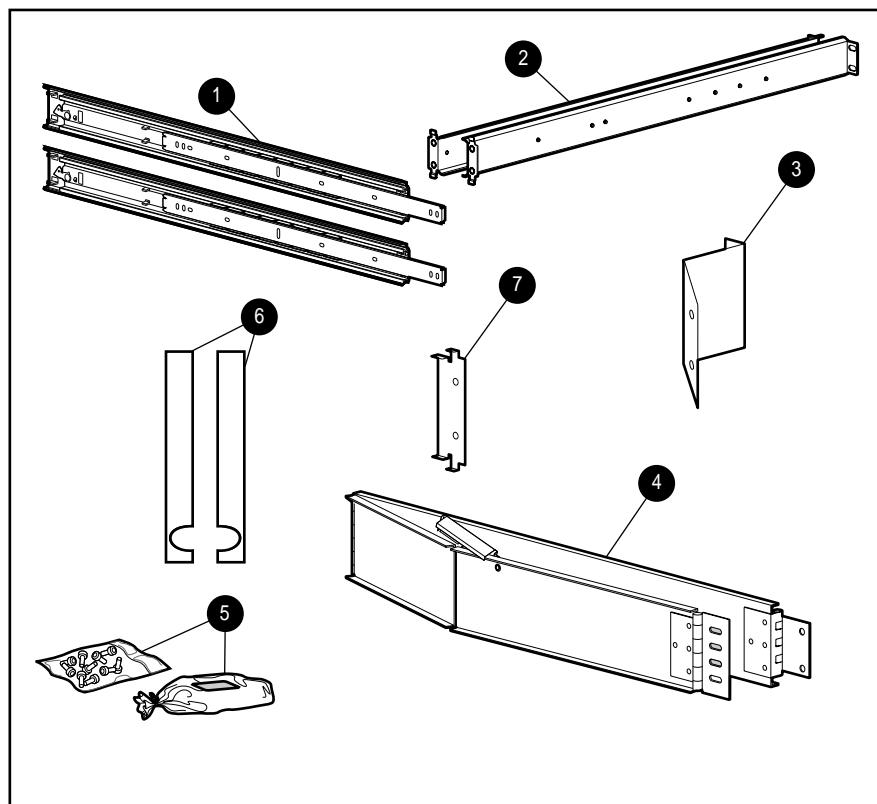

Figure 3-1. Rack mounting hardware included with the server
- Rack mounting hardware (numbers reference Figure 3-1)
- ① One pair 26-inch slide rail assemblies
- ② One pair slide rail mounting brackets
- ③ Cable management arm bracket
- ④ Cable management arm
- ⑤ Cable management arm screws
- ⑥ Plastic rail covers (one pair)
- ⑦ Cable management arm support bracket